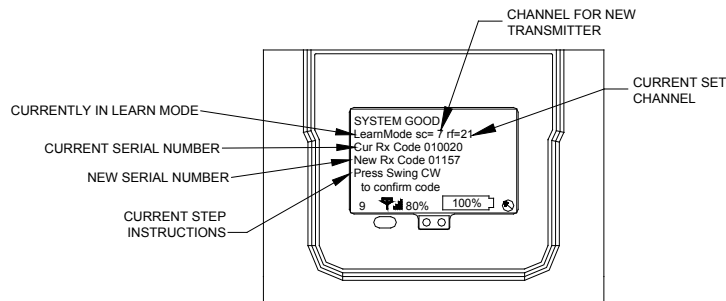

**Figure 1—LCD screen display during step 2**
2. After the LEARN tag has been put into place and the receiver is powered up, it will begin to search for the proper Channel and Serial Number of the transmitter. **Note: The transmitter must be powered up and the start/speed button must be held in the “speed” position. Make sure the transmitter is blinking the green led in the center. Reference figure 1 below for LCD screen display during this step. Reference figure 2 below for transmitter switch position.**